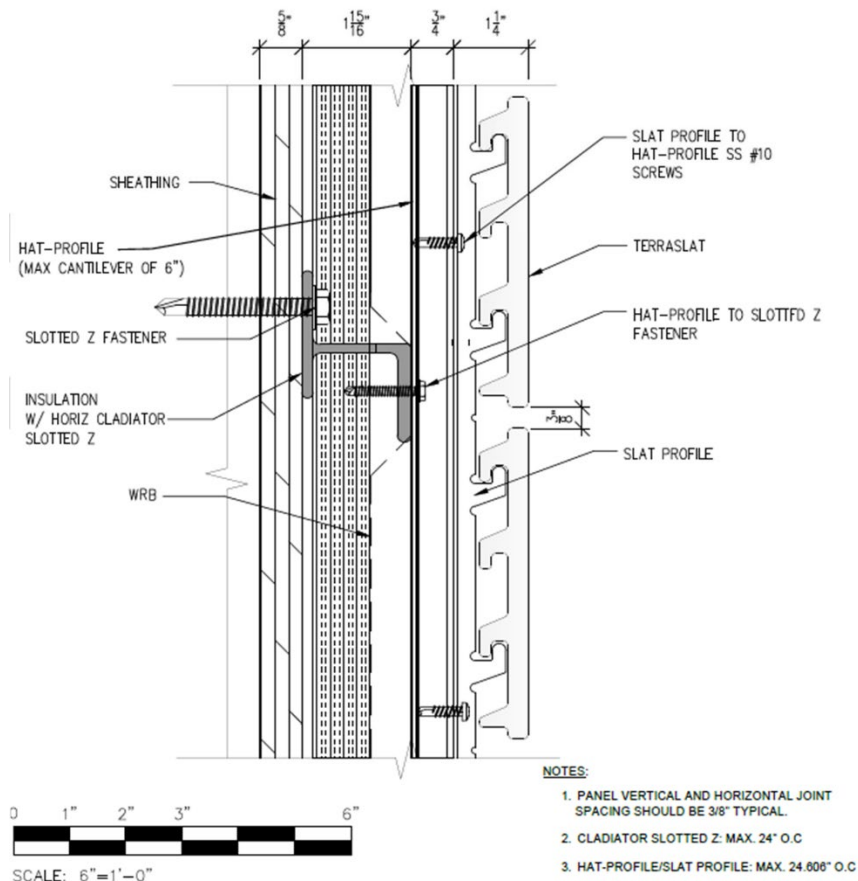

FIGURE 1-Horizontal TerrSlat Attachment Wall Details
4.3 System and Profile Descriptions: Descriptions of the attachment systems elements are shown in Table 3 of this report. Figures 1 and 2 of this report provide typical profiles and installation illustrations.